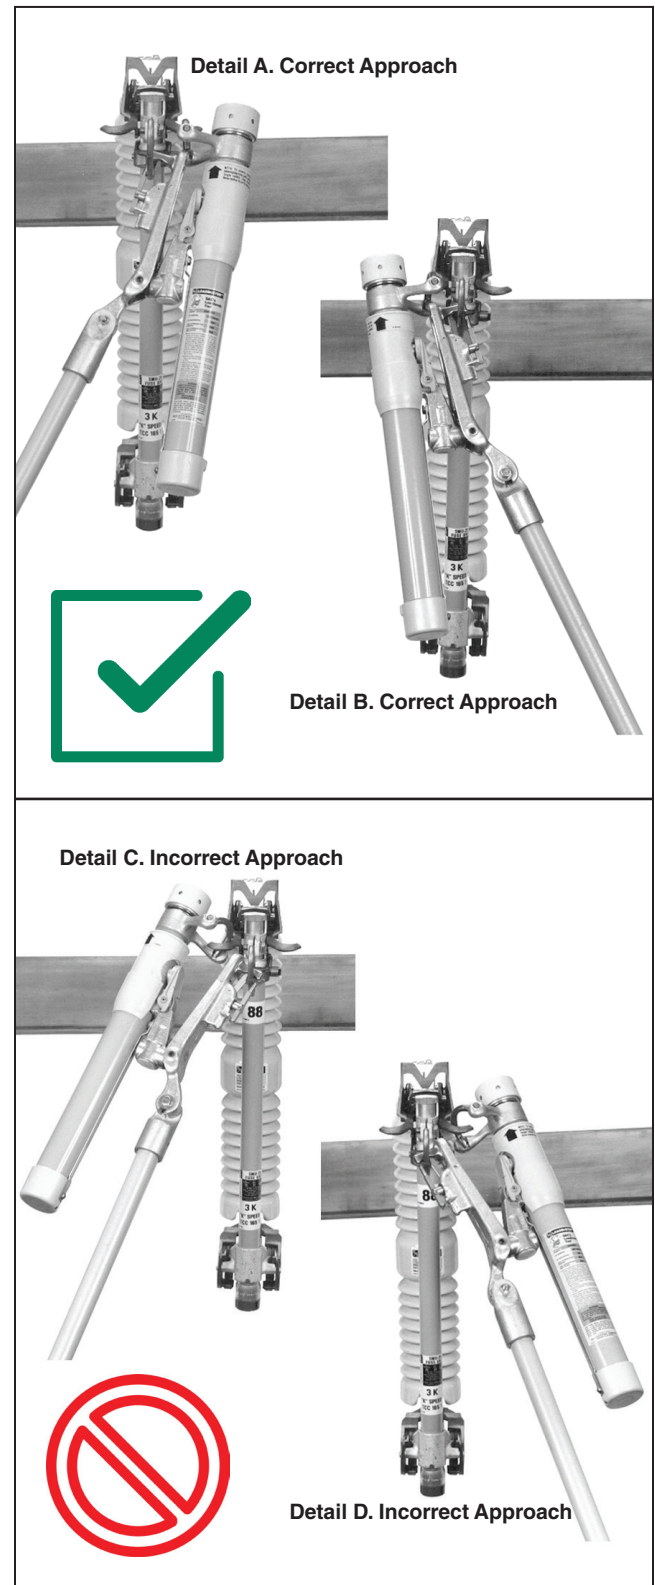

Figure 1. Correct and incorrect approach for Loadbuster—The S&C Loadbreak Tool.
7. **OPERATION.** Never position the Loadbuster loadbreak tool so the outer tube obscures the line of vision. See Figure 1 on page 9 for correct positioning.
- Never position the Loadbuster tool so its outer tube obscures the line of vision. See Figure 1 for correct positioning.
- As shown in Figure 1, Detail A or B, the Loadbuster tool must be attached so it reaches across in front of the fuse cutout, disconnect, power fuse, or fuse limiter. That is, the Loadbuster anchor must be hooked to the attachment hook on the far side of the device. The Loadbuster tool should never be attached with its anchor hooked on the closest side of the fuse cutout or other device, as shown in Figure 1, Detail C or D. Attaching the tool in this manner would not only obscure the operator's line of vision, but it could also result in placing a bending stress on the tool and make disengagement difficult.
When the Loadbuster tool is properly attached, as shown in Figure 1, Detail A or B, a downward pull of the pole to open the fuse cutout, disconnect, power fuse, or fuse limiter extends the Loadbuster tool and charges an internal spring. At a predeter-